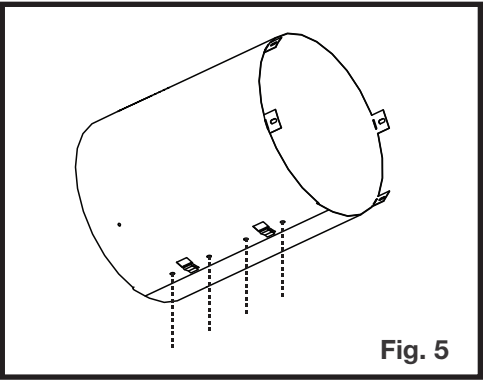

Fig. 5
- 5. Ensure both ends line up and secure ends with clip and fasteners (Figure 5).
5. Align the vent shield with the holes and replace above screws (Figure 5).